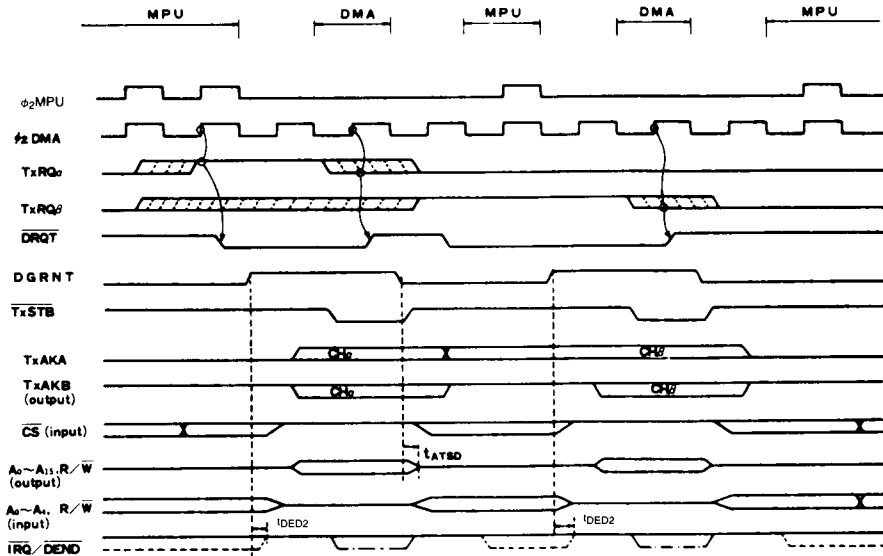
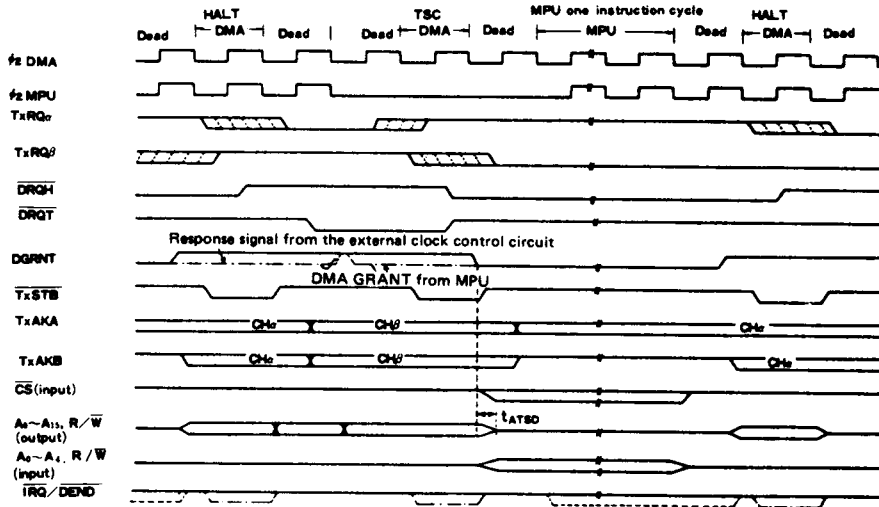
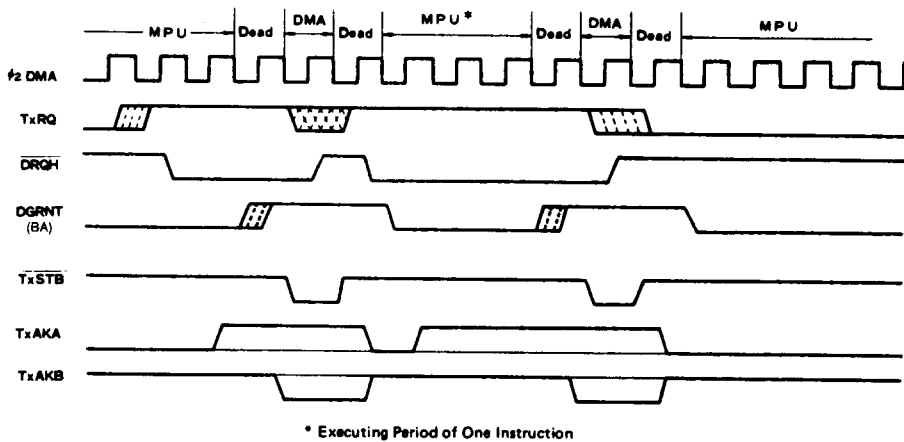

Figure 24 Channel Change (TSC Mode \rightarrow TSC Mode)
Figure 25 Channel Change (HALT Mode → TSC Mode → HALT Mode)
Figure 26 Successive 2-byte Transfer of One Channel (HALT Cycle Steal Mode)
- (2) From TSC mode to TSC mode (Fig. 24)
- (3) From HALT mode to TSC mode
- (4) From TSC mode to HALT mode
- (Fig. 25)
Both in the case of HALT → TSC mode and in the case of TSC → HALT mode, DMA operation timing is based on the same idea as the above two kinds of mode change. (In detail, see Fig. 25).
The timing in the case where the next byte is transferred without changing the channel is shown in Fig. 26. This is the case of HALT → HALT mode. In this case, the bus control returns to MPU, before the next byte is transferred. In the case of TSC → TSC mode, its timing is almost the same as than in Fig. 24, that is, after 1-byte transfer has completed, MPU executes the Instruction Cycle for one clock and then DMAC executes 1-byte transfer again.